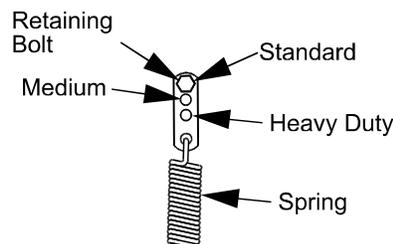

FIGURE 19
- b) For a heavier drive setting, relocate the spring anchor link to either the "medium" or "heavy duty" positions as shown in Figure 19. The spring anchor links are attached to the upper rear corner of the hydro drive shields on the left and right hand sides of the machine.